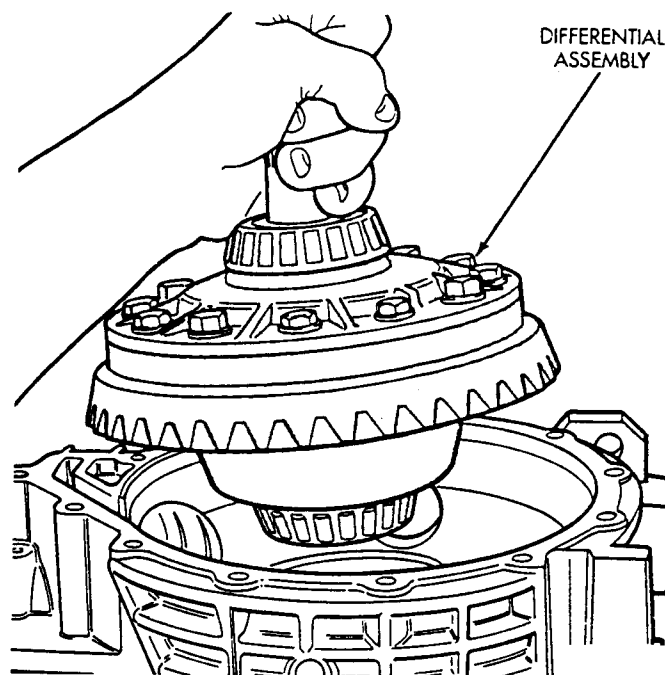

Fig. 39 Differential Assembly Installation
(43) Install new inner adjuster o-ring. Lube inner adjuster threads and o-ring. Then install inner adjuster flush with differential side of case.
(44) Install differential assembly (with ring gear attached) into transaxle case (Fig. 39).